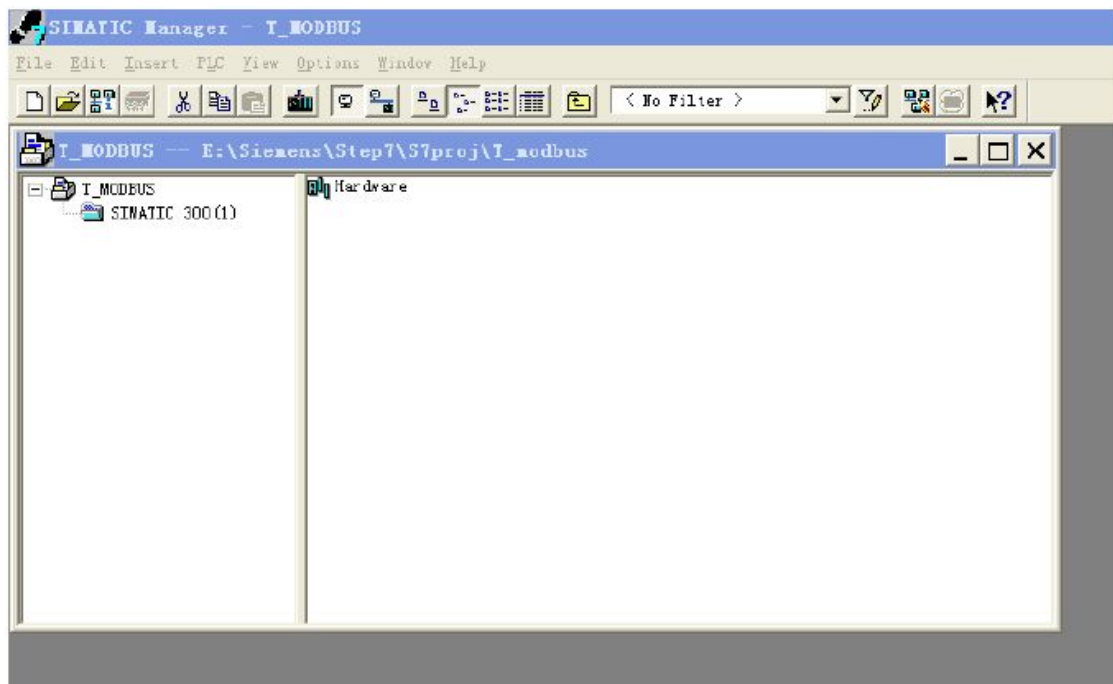

Figure 4
Open SIMATIC 300(1) and then double-click Hardware; Figure 4